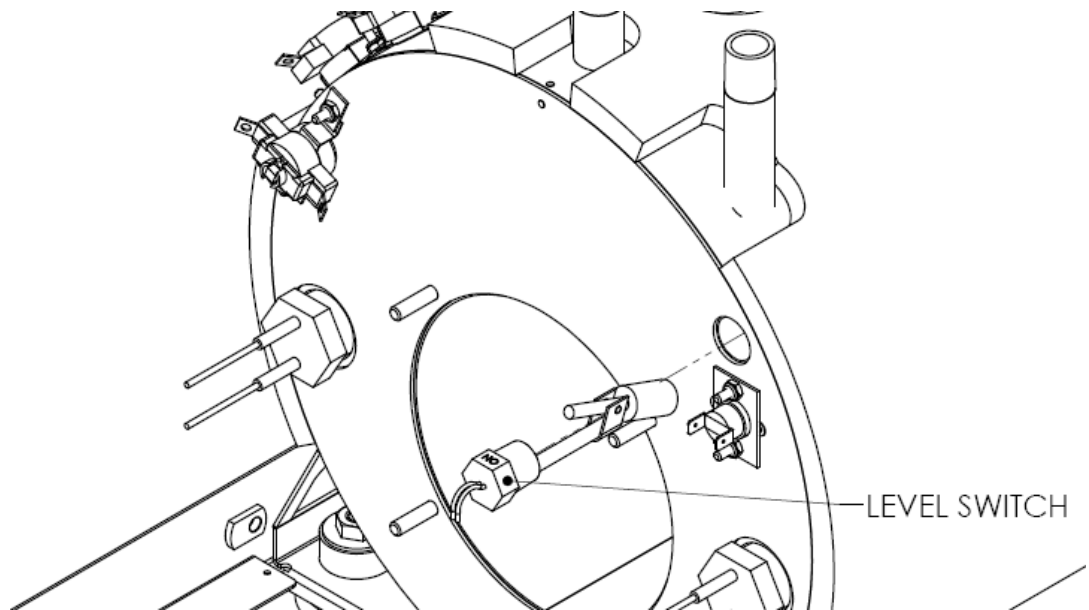

Figure 21: Level switch assembly
4. Disconnect the flame sensor wires and unscrew (counter-clockwise) the flame sensor from the fuel block (see Figure 21).